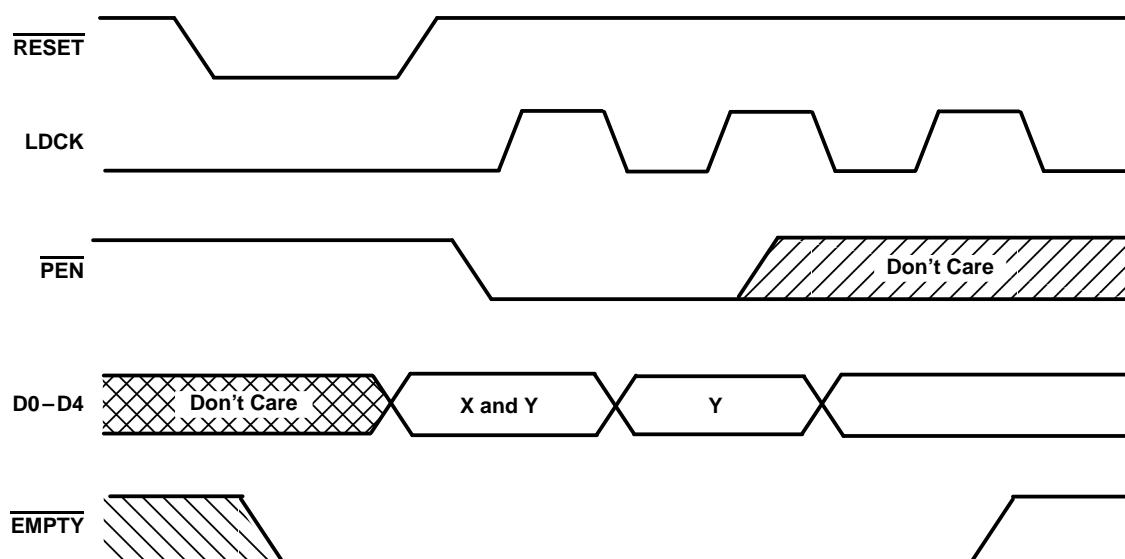

Figure 1. Programming X and Y Separately
To program the offset values, program enable ($\overline{\text{PEN}}$) can be brought low after reset only when LDCK is low. On the following low-to-high transition of LDCK, the binary value on D0–D4 is stored as the almost-empty offset value (X) and the almost-full offset value (Y). Holding $\overline{\text{PEN}}$ low for another low-to-high transition of LDCK reprograms Y to the binary value on D0–D4 at the time of the second LDCK low-to-high transition. Writes to the FIFO memory are disabled while the offsets are programmed. A maximum value of 31 can be programmed for either X or Y (see Figure 1). To use the default values of X = Y = 8, $\overline{\text{PEN}}$ must be held high.